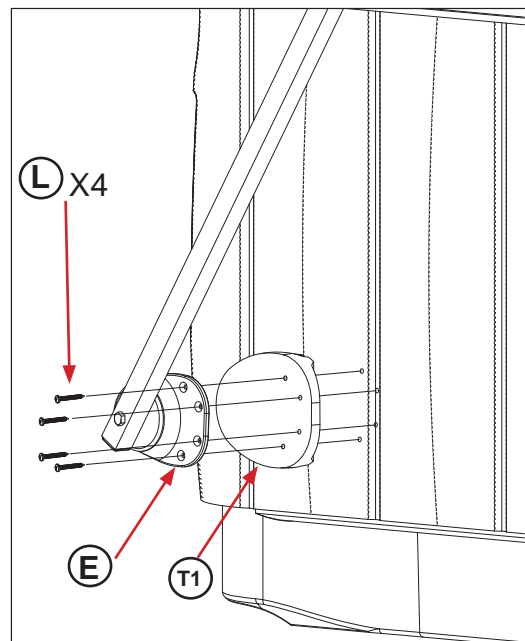

Figure 2.3
Remove the two screws (L) from the back of T1 or S1. Making sure that the holes on Spacer (T1) align with Bracket (E), secure bracket and Spacer (T1) to spa using 4 Flat head Screws (L) (Figure 2.3). Bag # 3 (L) (#10 2" Flat Head screws).